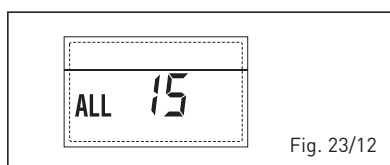

Fig. 23/12
– **ANOMALÍA DE LA Sonda EXTERNA “ INTERMITENTE”** (fig. 23/13)